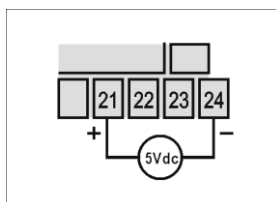

Figure 6 – Connection of 5 Vdc
- 0-5 Vdc: Figure 6 shows the 0-5 Vdc voltage signals wiring.